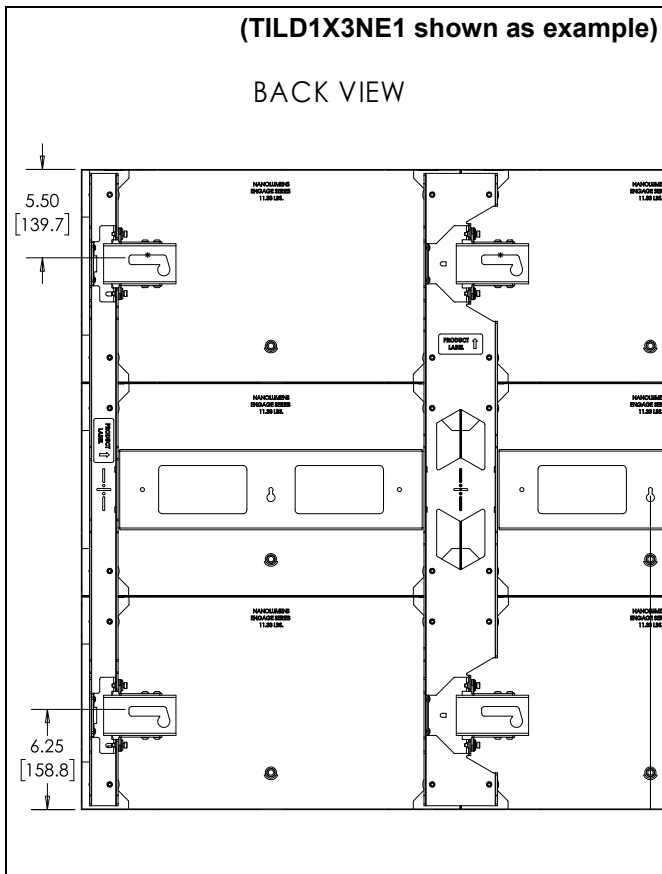

Figure 2
IMPORTANT ! : The top of the LED screen is 5.5" above the center line of the mounting lags in the upper mounting slots. (See Figure 2)
NOTE: Refer to dimensions drawings on pages 18-20 and in Figure 2 for further details on installation locations.
1. Determine location for the **bottom left** corner of the LED wall. (See Figure 2)
2. Make a mark at the centerline for the horizontal spacer bracket based on the mount height. Refer to drawings on pages 18-20 for the distance from the spacer to the bottom of the display. (See Figure 2)